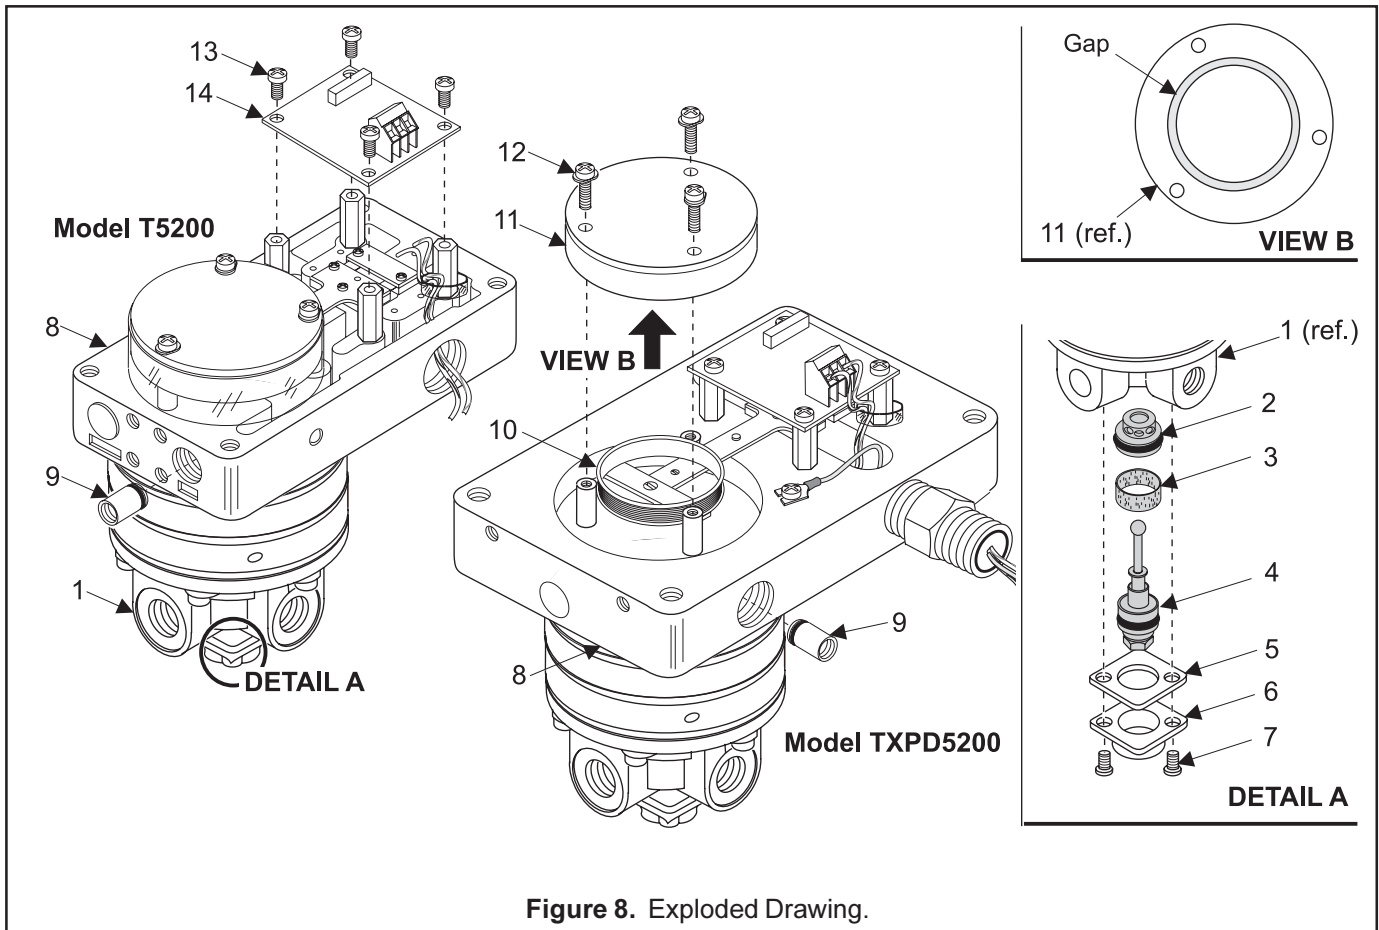

Figure 8. Exploded Drawing.
8. Repeat steps 6-7 until the desired output range is obtained. For more information, see Figure 8. "T5200/ TXPD5200 Calibration Configuration."
2. Remove the Orifice Assembly (9) from the unit by threading a 1/4-20" Screw into the orifice housing and pulling it out through the inlet port. For more information, see Figure 8. "Exploded Drawing" below.
1. Disconnect wires from Terminal Block on PC Board (14).
2. Unsolder Red (+) and Black (-) Leads on PC Board (14).
3. Remove four Screws (13) holding PC Board (14) to Transducer (8). For more information, see Figure 8. "Exploded Drawing" below.
4. Replace PC Board (14) with the appropriate PC Board from Table 3. on page 7.